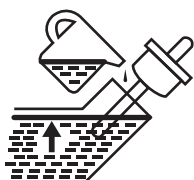

FIGURE 29: Engine Oil Level
5. Insert oil fill cap into oil fill hole but do not screw in (Figure 29).